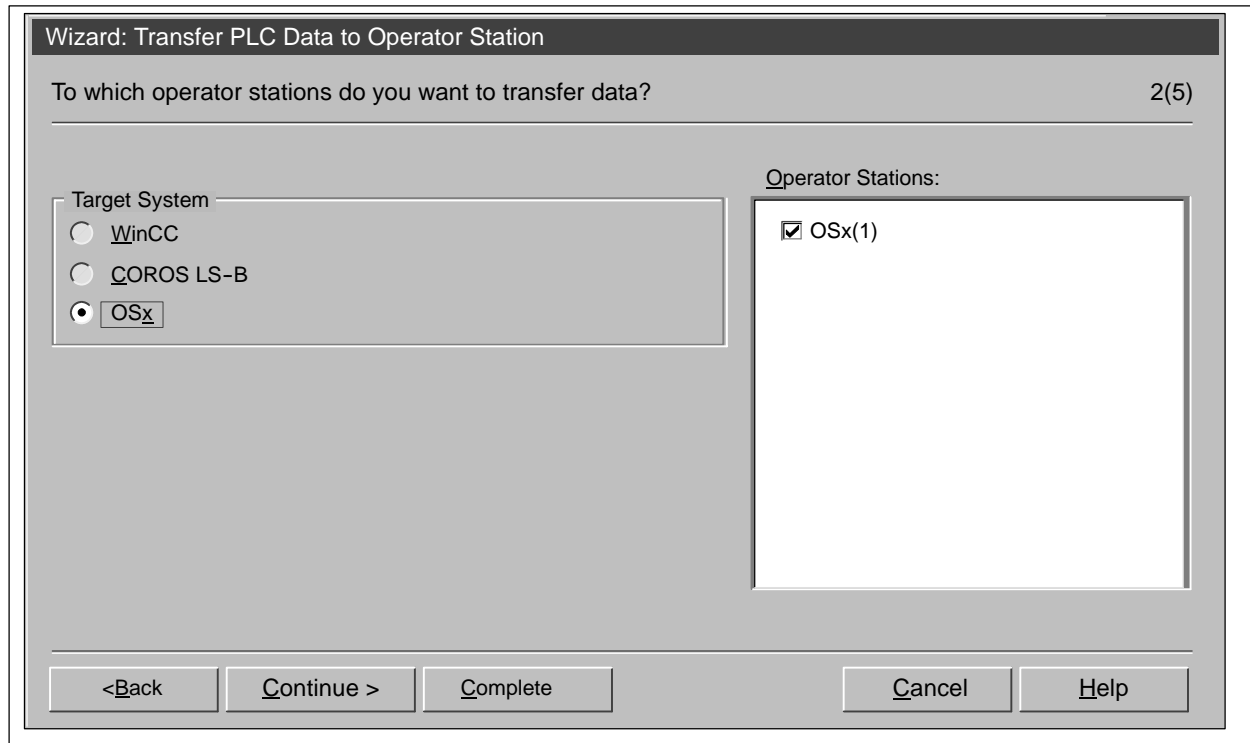

Figure 2-12 Selecting the OSx Station
2. Click **Continue**. The OS selection window appears (Figure 2-12).